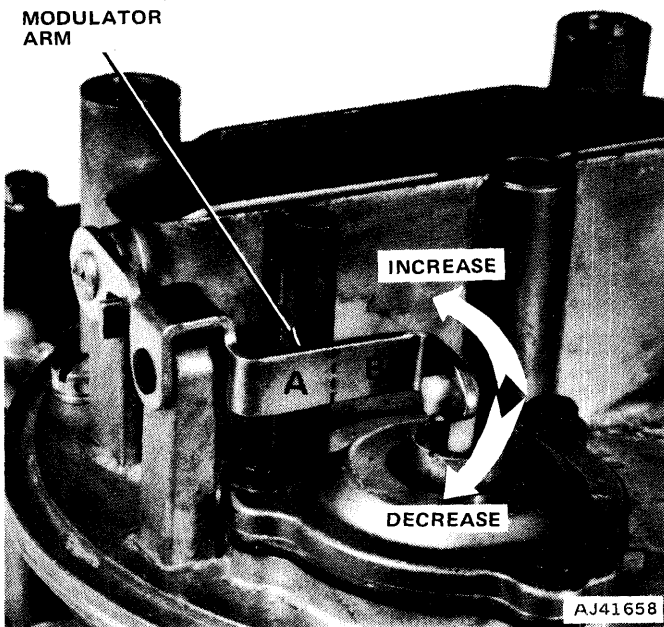

Fig. 4-81 Initial Choke Valve Clearance Adjustment
(4) Adjust by grasping modulator arm securely with pair of pliers at point A and twisting arm at point B with second pair of pliers. Twist toward front of carburetor to increase clearance and toward the rear of carburetor to decrease clearance (fig. 4-81).
(5) After completing adjustment, stop engine and connect choke heat tube. Turn fast idle cam lever adjusting screw in (clockwise) three full turns. Do not reset choke cover until fast idle cam linkage adjustment has been performed.